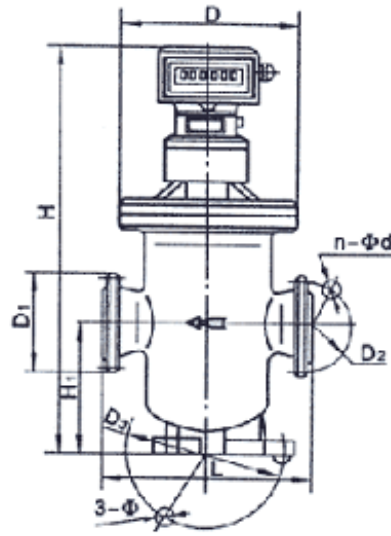

Fig.11 Flow Meter Dimensions (2)
- B. Dimensions and Installation Reference for Flow Meters in Configuration No. III , see Fig.11 and Table 4;